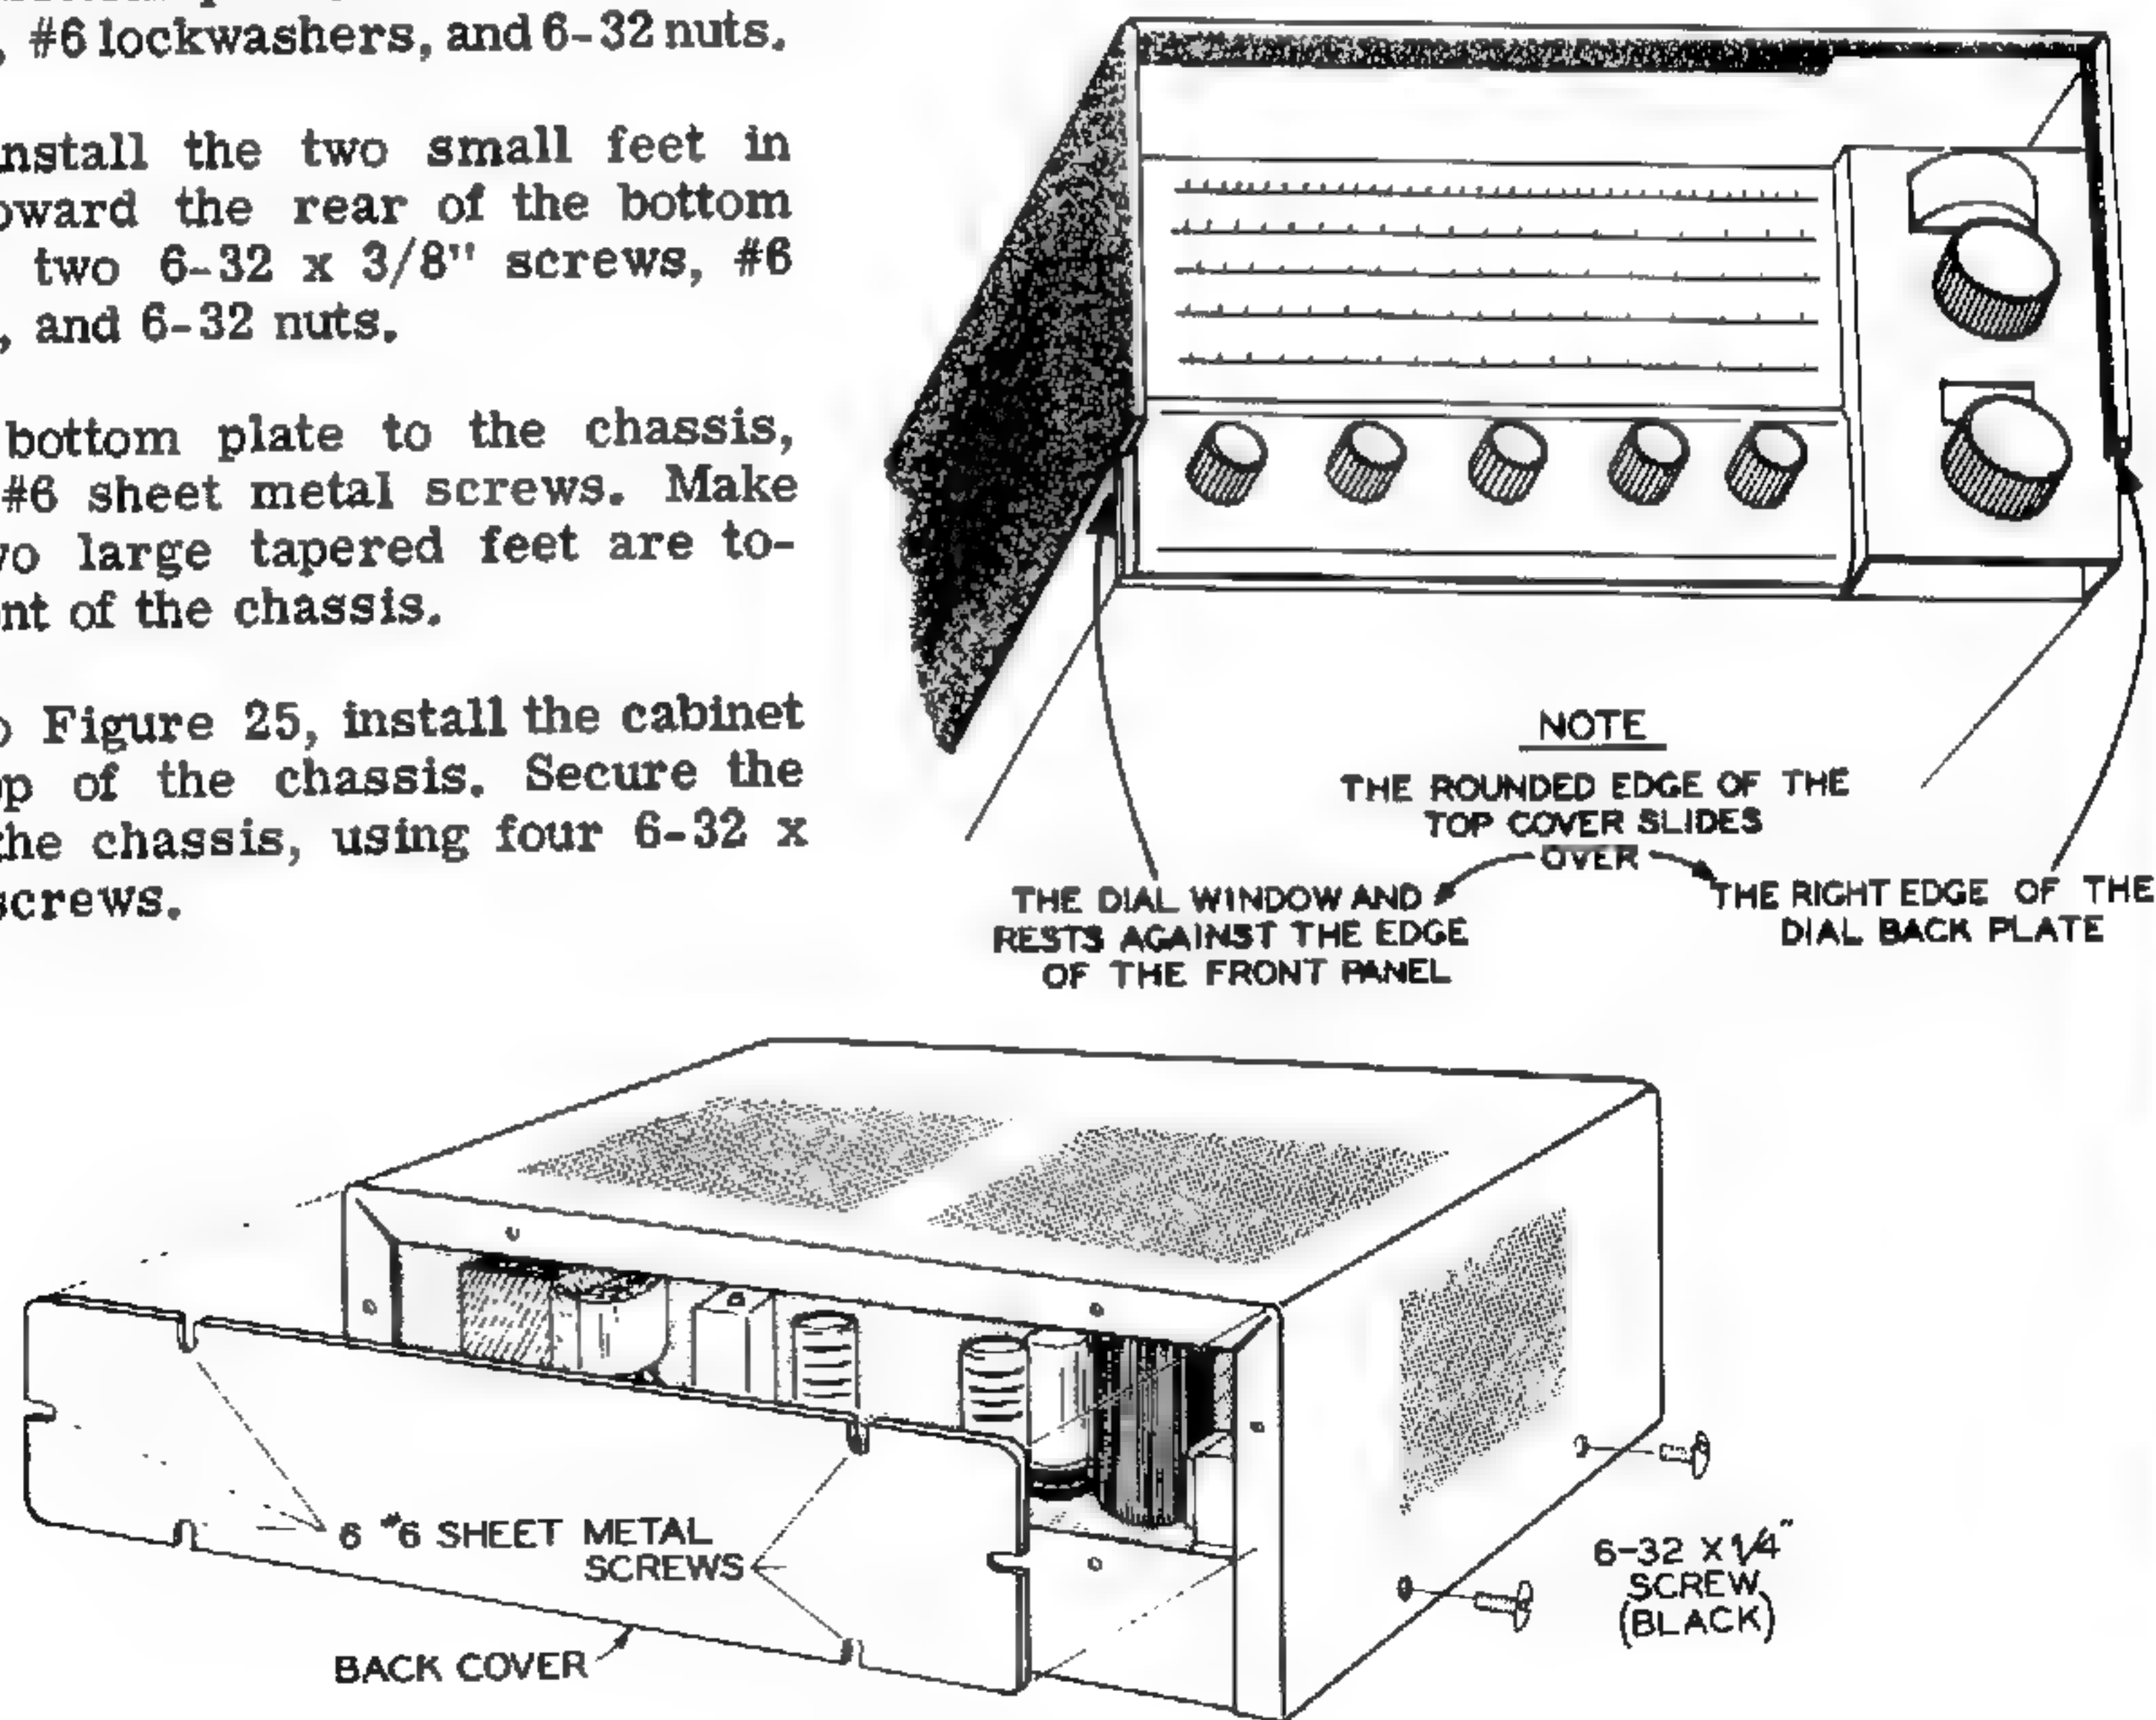

Figure 25
- ( ) Referring to Figure 25, install the cabinet over the top of the chassis. Secure the cabinet to the chassis, using four 6-32 x 1/4" black screws.